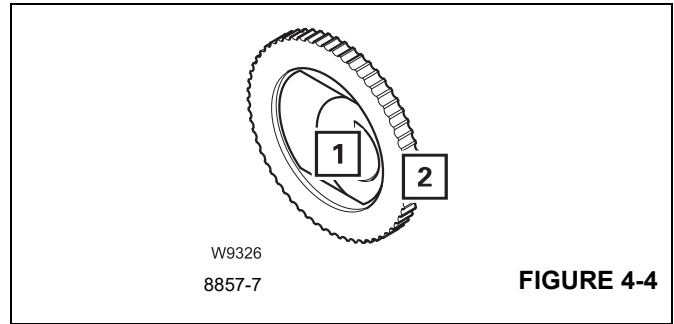

FIGURE 4-4
To open the vent:	Press the fins (1), (Figure 4-4) down and set them lengthwise